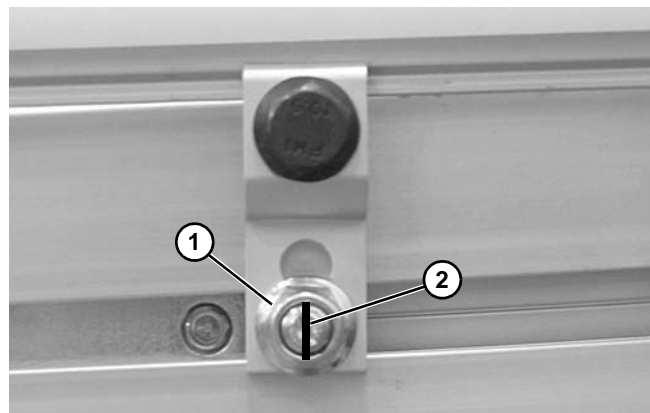

Figure 86
- Tighten nuts (**Figure 86, item 1**).
*Be certain that slot (**Figure 86, item 2**) is close to vertical when finished tightening nut.*